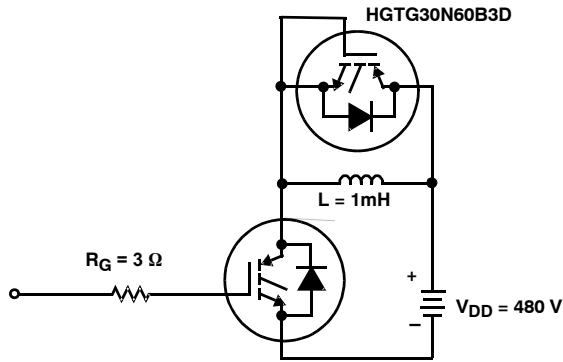

Figure 17. Inductive Switching Test Circuits
- Values for two Turn-On loss conditions are shown for the convenience of the circuit designer. E_{ON1} is the turn-on loss of the IGBT only. E_{ON2} is the turn-on loss when a typical diode is used in the test circuit and the diode is at the same T_J as the IGBT. The diode type is specified in Figure 17.